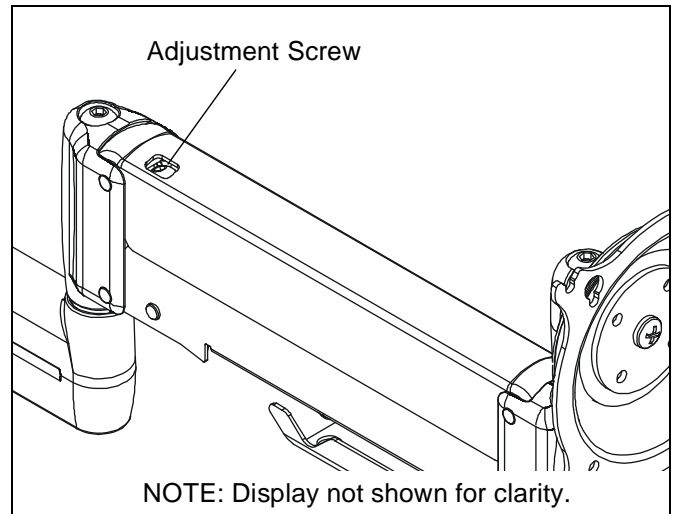

Figure 14
1. Using key (K), slightly loosen or tighten the adjustment screw as necessary (See Figure 14).